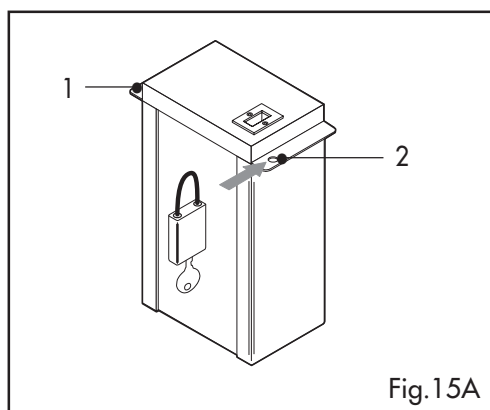

Fig.15A
- There are two ways to attach the coin box using a lock (with max. 5 mm diameter shackle) (not supplied): insert the lock into the opening ref. 1 (Fig. 15A) to impede the cover from being opened. The locked box can be removed from the machine. Or, insert the lock into the opening ref. 2 (Fig. 15A) to secure the box in the machine. The cover cannot be opened.